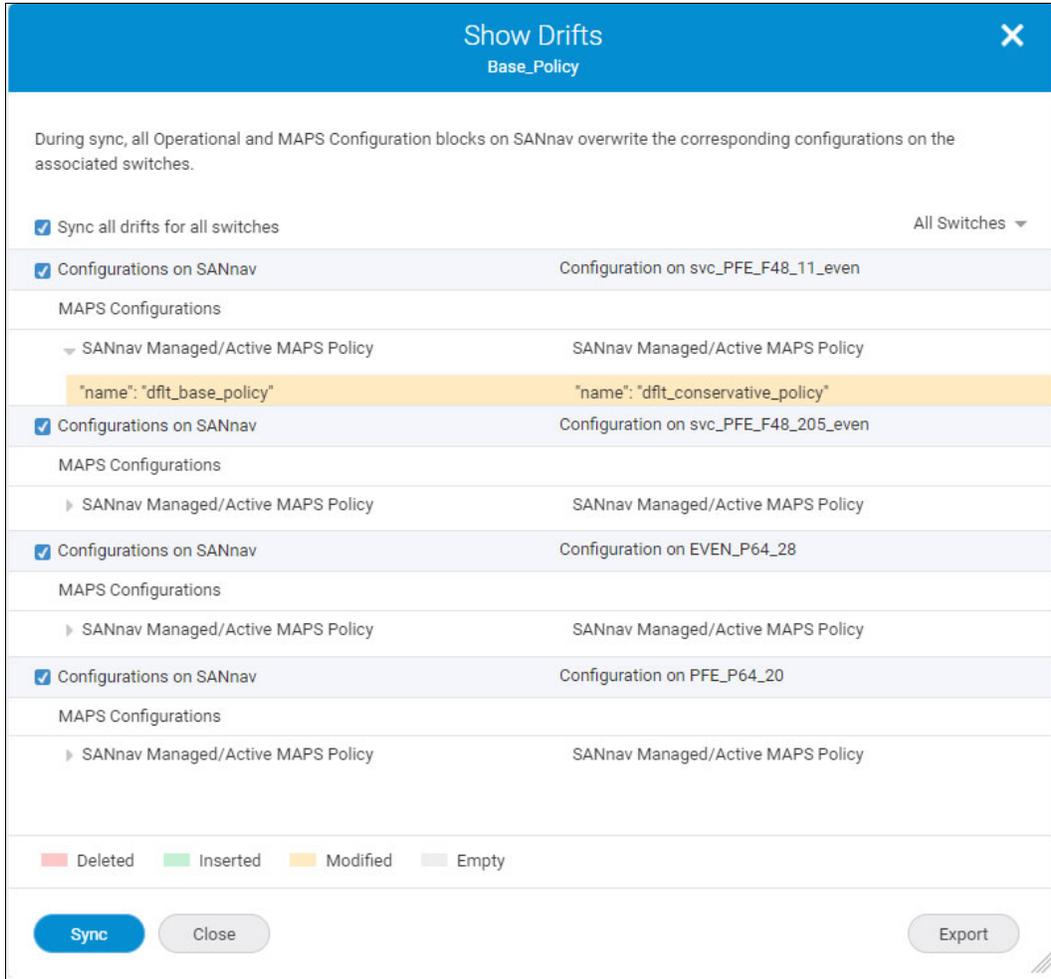

Figure 5-12 Show Drifts
4. Select a switch from the **All Switches** drop-down menu to view the drifts for the specific switch of the respective policy. By default, you can view drifts for all switches of the respective policy. Expand the configurations to view the drifts, as shown in Figure 5-12.